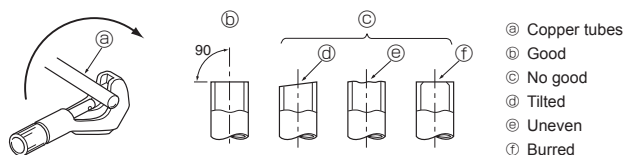

Fig. 5-2
5.3.1. Pipe cutting (Fig. 5-2)